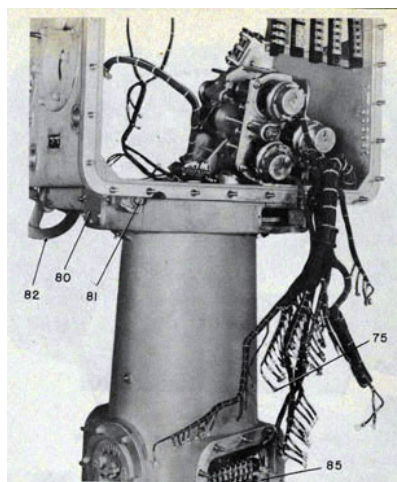

Figure 123-Removal of Locating Pin and Handwheel Shaft.
80. Remove the access cover plate from inspection opening on lower right side of director case by withdrawing six screws. Drive locating pin out of worm gear. Pin can be reached through inspection opening. See figure 123.
81. Remove double nut from worm at the rear of the training handwheel shaft. See figure 123.
82. Upon completion of unpinning, remove the handwheel shaft by withdrawing it from the front. This will loosen the worm gear which should also be removed. See figure 123.
terminal boards from one side of the stand. Then inspect the boards for cracks, loose terminals, corrosion, etc. See figure 123.